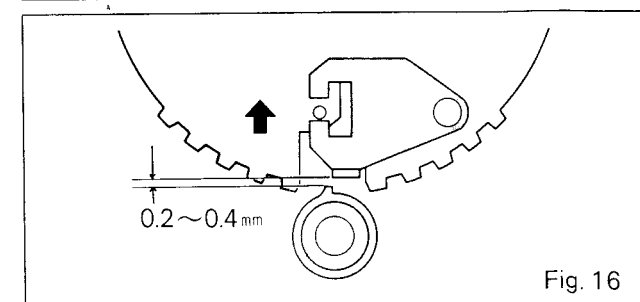

Fig. 16
- (1) Loosen the three screws which hold the turntable shaft.
- (2) Push ratchets A and BJ attached to the drive gear as far as possible in the direction of the arrow shown in Fig. 16.
- (3) Move the turntable shaft so that the gap between the turntable gear and ratchet A becomes as shown in Fig. 16, and tighten the screws.
- (4) Turn the turntable shaft by hand to make sure the turntable gear and ratchet A do not touch each other. If they come in contact, move the turntable shaft slightly forward.
- Keep the gap between the turntable and ratchet to the dimensions shown in Fig. 16.
Remove the turntable platter and check to see that the clearance between gear of center shaft and ratchet is reasonable. (Fig. 16)